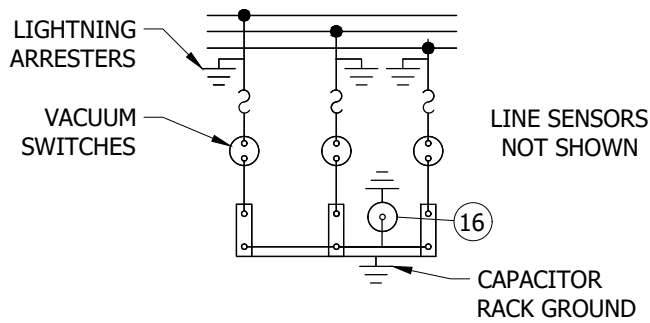
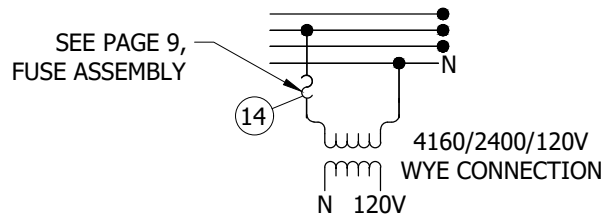

FIGURE 3
FIGURE 4
- M. SEE FIGURE 2 FOR ALTERNATE DEADEND CONSTRUCTION, FIGURE 3 FOR WIRING DIAGRAM, AND FIGURE 4 FOR POTENTIAL TRANSFORMER CONNECTION.